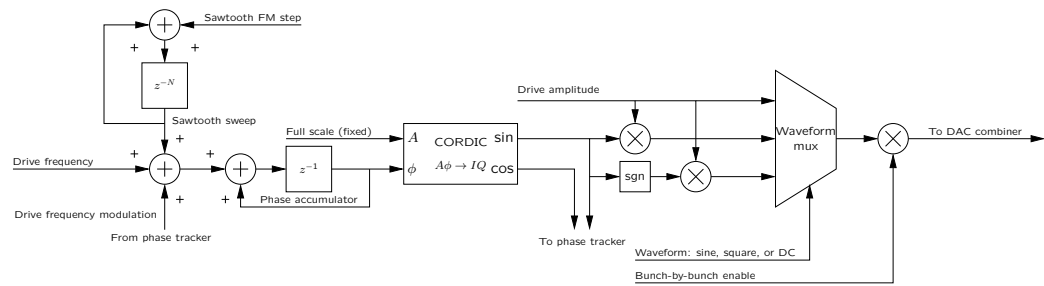

Figure 15: Drive source block diagram
Three independent drive sources are available in iGp12-372F FPGA, 0, 1, and 2. Each source is based on an numerically controlled oscillator (NCO) with sawtooth frequency modulation (FM) capability and bunch-by-bunch enable. Three output waveform types are supported: sinusoidal, square, and direct current (DC). Block diagram of a drive source is shown in Figure 15.